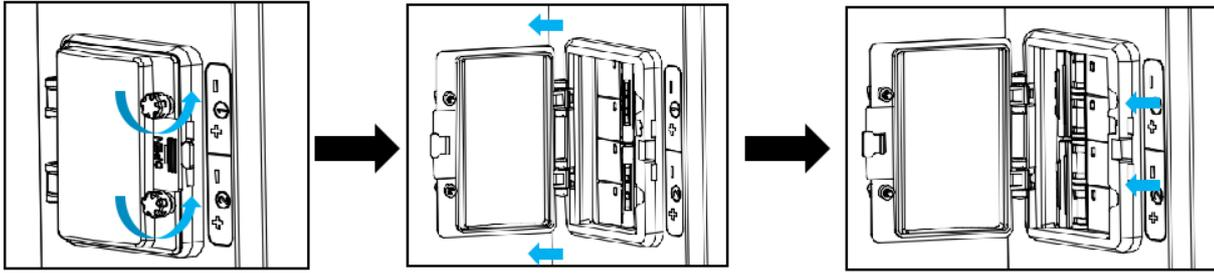

Fig. 4.4.1 Procedure for opening the circuit breaker protective cover
Step1. Open the circuit breaker protective cover and turn on the circuit breaker to “ON” side refer to Fig. 4.4.1 (Ensure that the inverter is connected to the PV module)